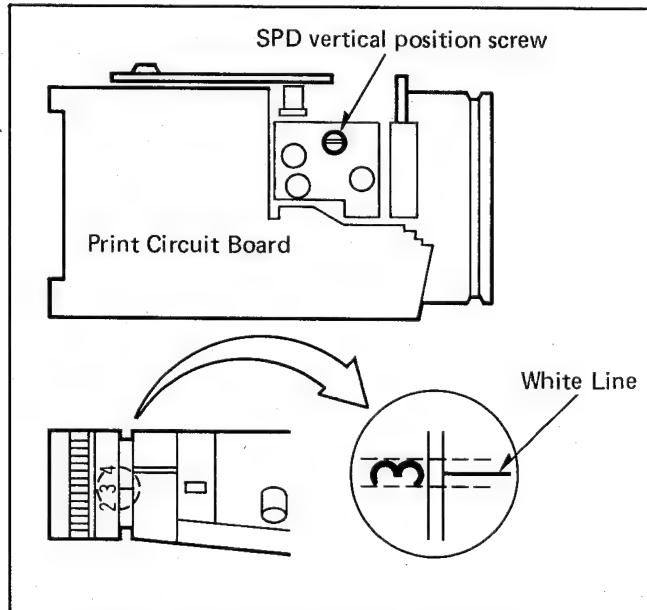

Fig. 7 SPD Vertical Position Adjustment
If the focus ring doesn't indicate 3 meter, adjust the SPD vertical position adjustment screw as shown in Fig. 7 (Coarse).
4. Then, adjust the SPD vertical position adjustment screw so that the focus ring indicates the 3 meter position, return back to the 3 meter position from the infinity side and the near side as shown in Fig. 7.